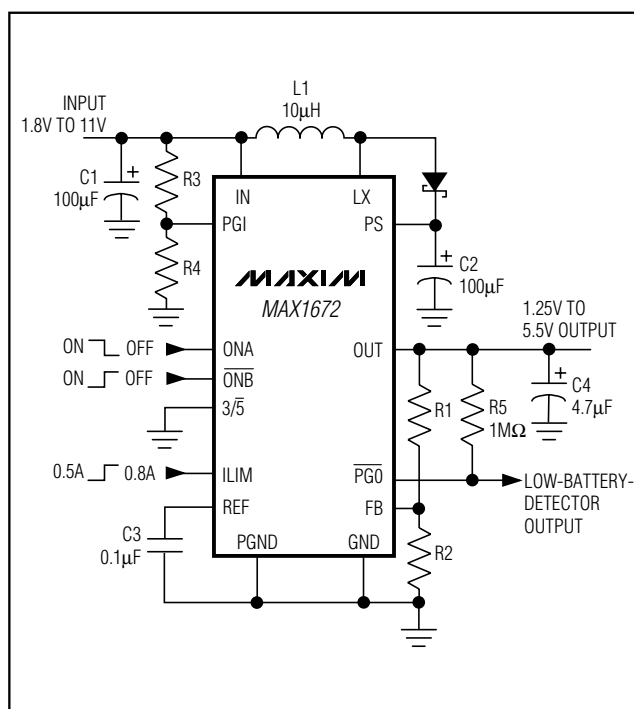

Figure 2. Adjustable Output Voltage Configuration
For fixed output voltages of 3.3V or 5V, connect 3/5 to PS or GND and connect FB to GND (Table 2). Alternatively, adjust the output voltage from 1.25V to 5.5V by connecting two resistors, R1 and R2 (Figure 2), which form a voltage divider between OUT and FB. Choose resistor values as follows:
The MAX1672 contains a comparator for low-battery detection. If the voltage at PGI falls below VREF (typically 1.25V), the open-drain comparator output (PGO) goes high. Hysteresis is typically 30mV. Set the low-battery detector's threshold with resistors R3 and R4 (Figure 2) using the following equation:
- Keep the IC's GND pin and the ground leads of C1 and C2 (Figure 2) less than 0.2in. (5mm) apart.